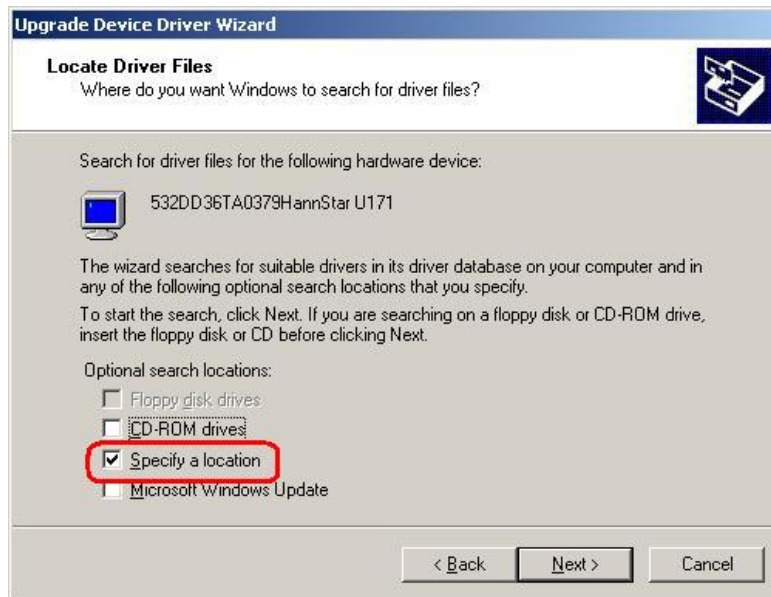

Figure 6-25: Locate Driver Files
Step 7: Select “Specify a Location” in the **Locate Driver Files** window (Figure 6-25).